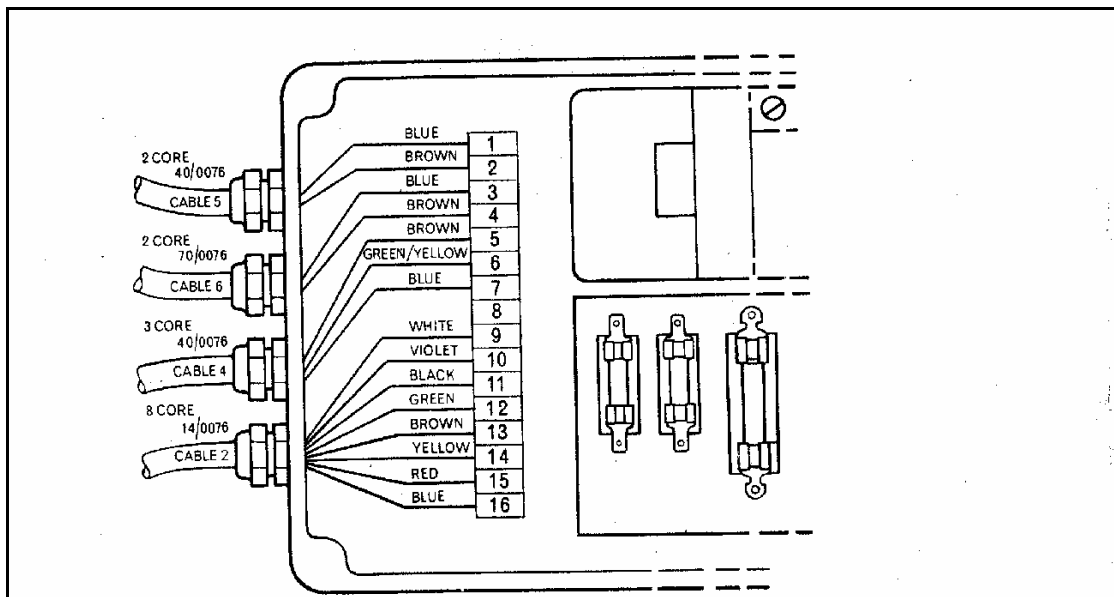
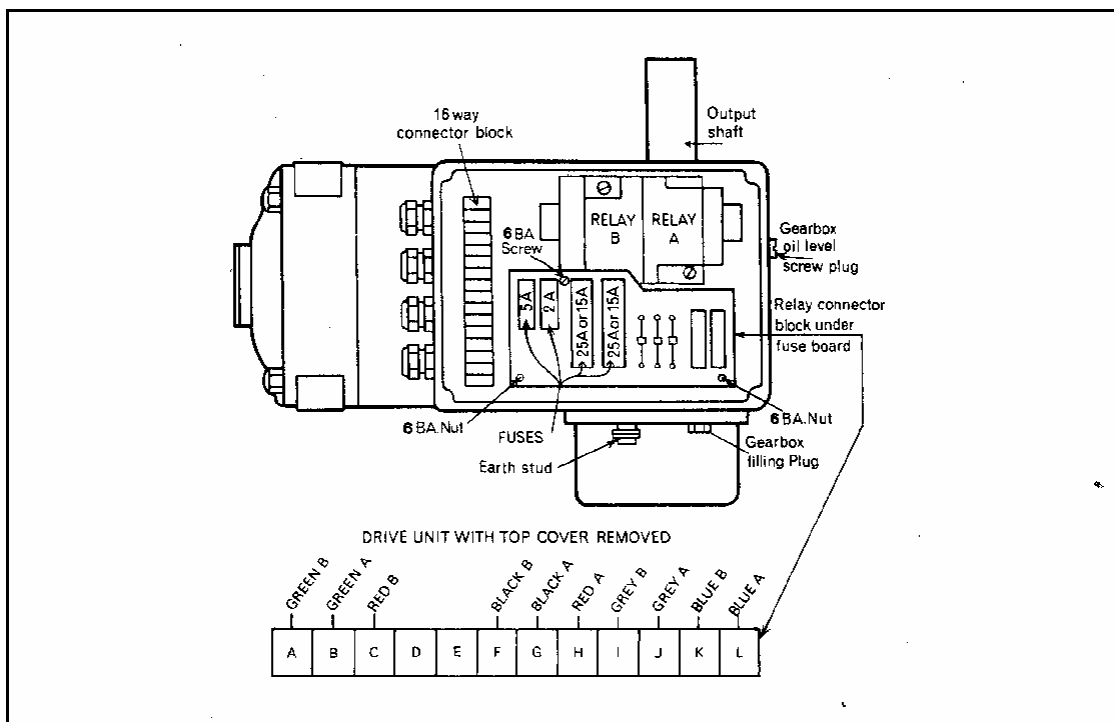
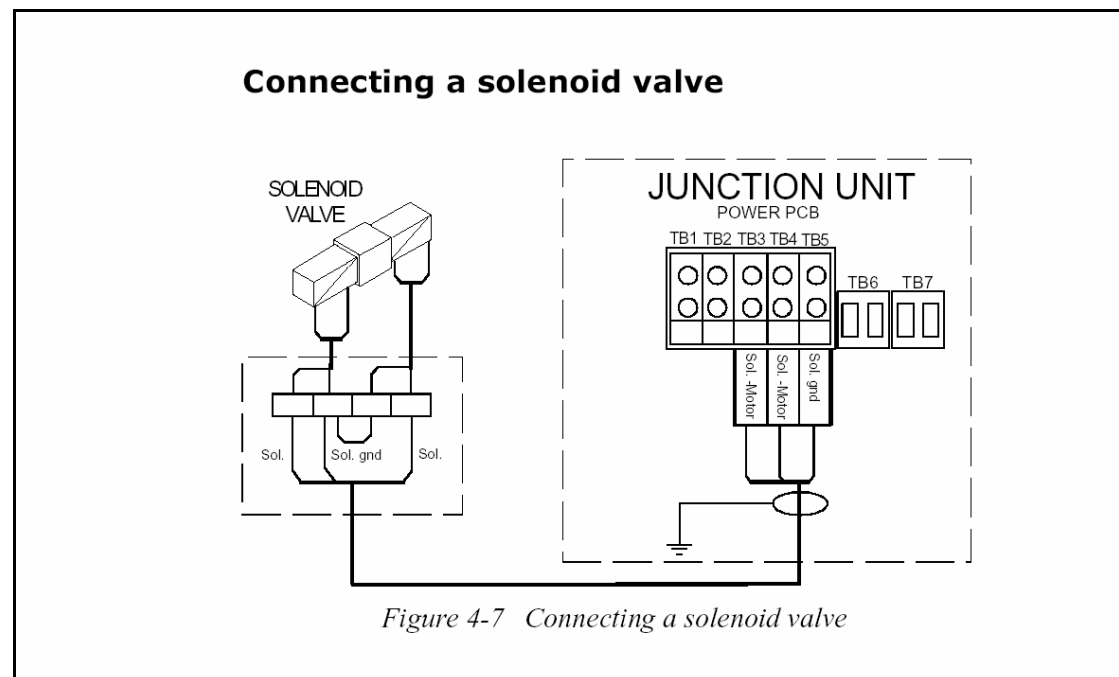

Figure 3. Particular of the Neco Relay Box (extracted from the Neco Manual).
Figure 4. Neco Drive Unit and Relay Box (extracted from the Neco Manual).
Figure 11. (extracted from the Simrad Manual)
1) Additional relay needed to control the Clutch and the Shunt coil. It must be a high power DC relay (12V/15A switching specification or better), activated at 12V. Possible choices are OMRON G8P-1C4P 12DC or Tyco Electronics VF4-11F13 but any good automotive high power relay may work; the minimum requirement configuration is SPST NO (single pole, single throw, normally open). It is important that all connectors are isolated from ground and the absorption of the coil is as little as possible (approx 100mA). Find a proper way to accommodate the relay either inside the original Neco Relay Box or close to it. If it cannot be fitted inside the Relay Box check that it is well protected from moisture. The two coil terminals (DU5) and (DU6) must be connected to the autopilot central unit Clutch Output while the two switched terminals are to be connected to the DU as depicted in Figure 4: terminals Nr. 7 and Nr. 9 of the 16-terminal block (Figure 2). Be sure to use only the Common Terminal and the Normally Open Contact of the relay if it is not SPST-NO (check its datasheet). Voltage polarity is NOT important in any connection of this relay.
2) The 2A Fuse placed in the Neco Relay Box (second from left in the Figures 2, 3 and 4) must be taken off in order NOT to send the electrical negative of the boat to that part of the circuit. (This is in accordance with the indication given by Raymarine “CAUTION” in Figure 8 but it is a good practice for any autopilot). In fact it is a good idea to disconnect and insulate the wire carrying the negative from the boat electric circuit to the terminal Nr. 1 of the 16-terminal block of the DU (Blue wire of Cable 5, Figure 3). Notice that the negative of the boat electrical circuit is also carried to terminal Nr. 3 of the 16-terminal block; this connection, that does not feed back to the autopilot Central Unit but is necessary for the functioning of the motor, must remain.
There is a Brown wire connected to terminal 12 and a Violet connected to terminal 13 of the 16-terminal block (Figure 3)(12/16 and 13/16 respectively); a Black wire and a Yellow wire connected to the D and E terminals of the 12-terminal Relay Connector Block under the Fuse Board (Figure 4)(D/12 and E/12 respectively). Having now removed the feedback/end-switches assembly (Figure 6) with the resulting loss of continuity between 12/16 and D/12 and between 13/16 and E/12, the proper connection must therefore be restored inside the DU (Figure 5) with two short wires similar to the ones discarded: the first connected between 12/16 and D/12, and the second between 13/16 and E/12. (Note: the color coding of the cables was taken from several original Neco pages; although unlikely, some discrepancies in the color may exist and should be checked carefully).
The “Drive Motor Outputs” terminals MOTOR(A) and MOTOR(B) (AP, figure 9) are to be connected to (12/16)(defined also as DU3) and (13/16) (also DU4) of the 16-terminal block inside DU, Figure 3. Polarity is important for a correct rudder control but, unfortunately, the right choice must be checked according to a final test while in function: there is a 50% chance to find the right configuration at first shot. If the rudder corrections performed by the autopilot are in the wrong direction the link from MOTOR(A) and MOTOR(B) to 12/16(DU3) and 13/16(DU4) shall be crossed.
The terminals (10/16) (DU1) and (11/16) (DU2) of the 16-terminal block inside DU, Figure 3, are to be connected to the two “Drive solenoid return inputs” SOLENOID(-) of AP, Figure 9. Polarity is not important in this case.
Regarding the control of the motor through relays, we follow what is suggested by Simrad (Figure 11) for connecting its AP22 to a “solenoid valve” (solenoids are electrically identical to relays).
The terminals “Sol.-Motor” TB3 and TB4 (AP22, Figure 11) are to be connected to (12/16)(defined also as DU3) and (13/16) (also DU4) of the 16-terminal block inside the Neco Relay Box, Figure 3. Polarity is important for a correct rudder control but, unfortunately, the right choice must be checked according to a final test while in function: there is a 50% chance to find the right configuration at first shot. If the rudder corrections performed by the autopilot are in the wrong direction the link from TB3 and TB4 to 13/16(DU4) and 12/16(DU3) shall be crossed.
The terminals (10/16) (DU1) and (11/16) (DU2) of the 16-terminal block of the Neco Relay Box, Figure 3, are both to be connected to “Sol. gnd” TB5 of AP22, Figure 11.
The “Drive engage” TB6 + and TB6 - of the AP22, Figure 11, are to be connected to (DU5) and (DU6) of DU, Figure 5 i.e. to the coil terminals of the newly fitted relay. Polarity is NOT important.
The terminals “LEFT +” 1/TB11 and “RIGHT +” 3/TB11 (GEO, Figure 12) are to be connected to (12/16)(defined also as DU3) and (13/16) (also DU4) of the 16-terminal block inside the Neco Relay Box, Figure 3. Polarity is important for a correct rudder control but, unfortunately, the right choice must be checked according to a final test while in function: there is a 50% chance to find the right configuration at first shot. If the rudder corrections performed by the autopilot are in the wrong direction the link from 1/TB11 and 3/TB11 to 13/16(DU4) and 12/16(DU3) shall be crossed.
The terminals (10/16) (DU1) and (11/16) (DU2) of the 16-terminal block of the Neco Relay Box, Figure 3, are to be connected to “LEFT -“ 2/TB11 and “RIGHT -“ 4/TB11 of GEO, Figure 12. Polarity is not important in this case.